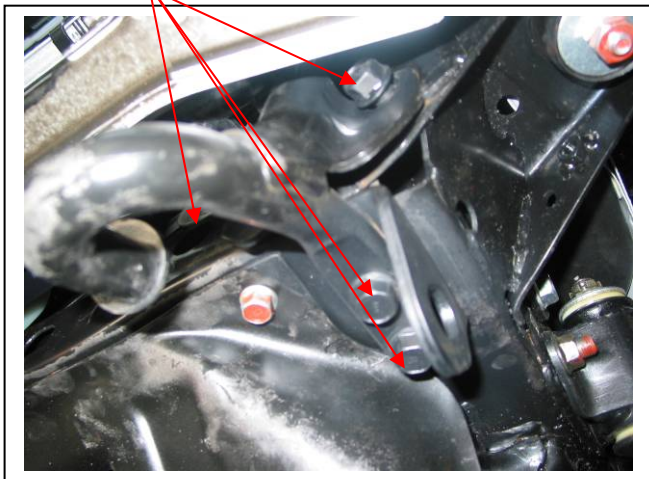
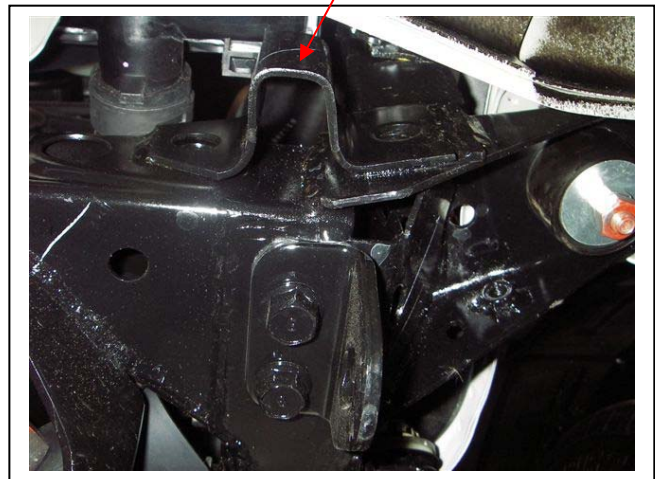

Figure 1 – Passenger side shown
Figure 2 – Driver side shown
1. For Hi-rider and 4WD vehicles remove passenger side tie down bracket and tow hook, four 17mm head bolts. **See figure 1.** On low-rider 2WD vehicles: Tie down and crush brackets may be the same as driver's side. Depending on model the crush bracket maybe welded to the front of the vehicle and therefore does not need to be removed. **See figure 2**
2. Remove driver's side tie down brackets (two 17mm head bolts). If the crush bracket is bolted to the chassis, remove, one inner 17mm head bolt, leave bracket attached to vehicle. Depending on model the crush bracket maybe welded to the front of the vehicle. **See figure 2.**